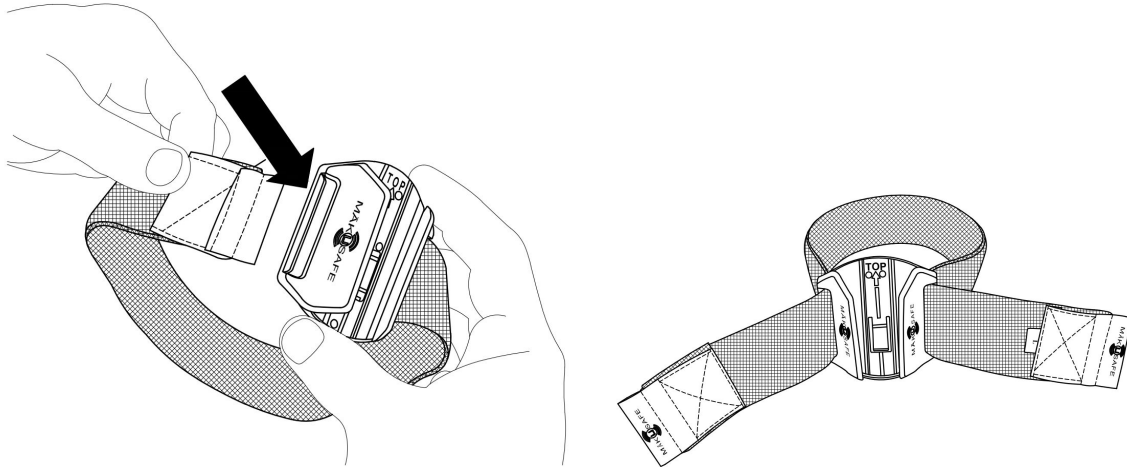

Figure 1
1. Thread each side of the armband through the holster so that the hook and loop tab fold down onto the band. (Figure 1)